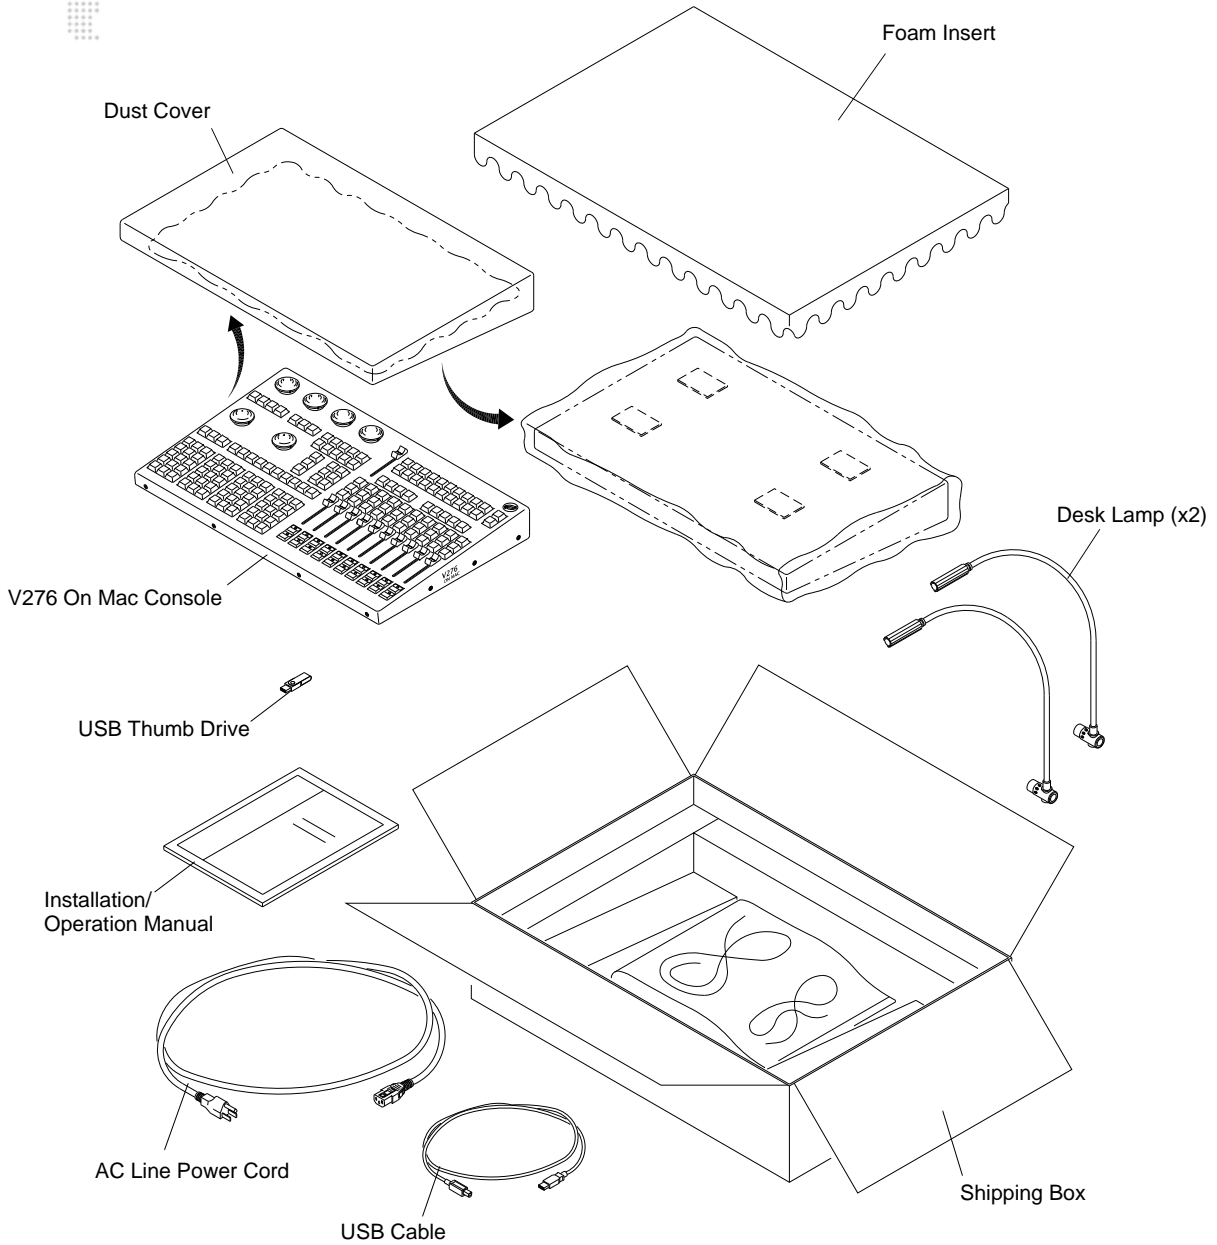

Figure 5: Unpacking the V276 On Mac Contents
Step 1. Remove all components from shipping box (Figure 5).